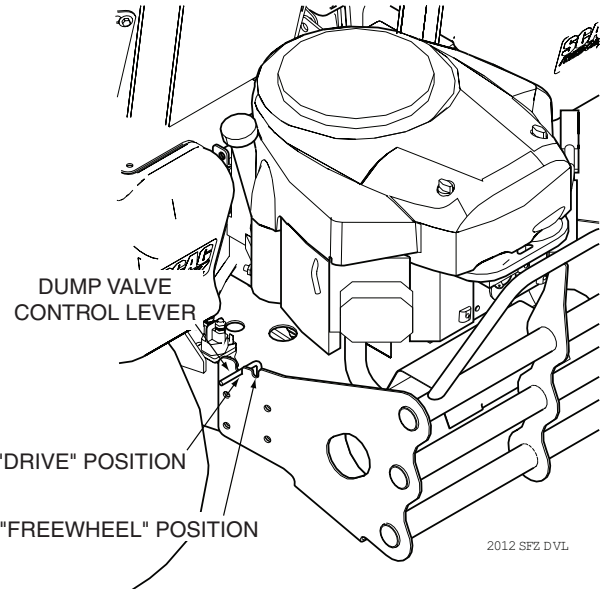

Figure 7-4. Dump Valve Control Lever
- Move the dump valve control levers to the "freewheel" position. See Figure 7-4.
- Engage the parking brake. Move the dump valve control levers to the "drive" position. See Figure 7-4.